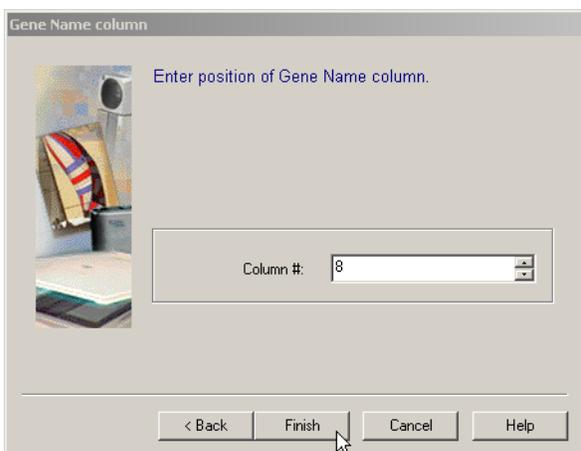

Figure 17 Gene Name dialog box
9. In the Gene Name column dialog box (Figure 17),